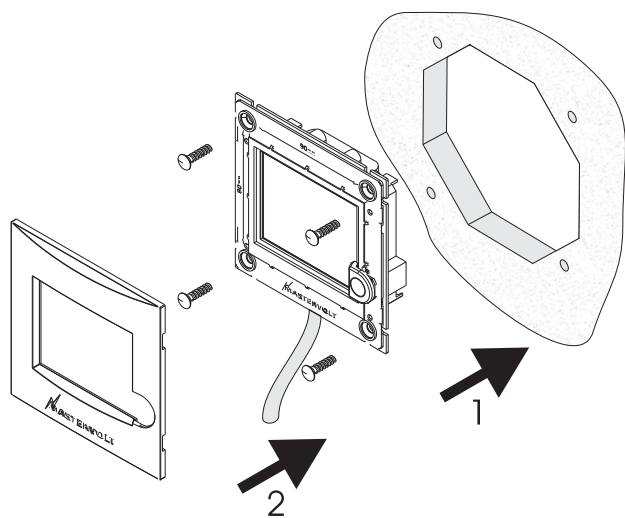

Figure 17
- Flush mounting (see figure 17):
- Mount the MasterView Easy onto the panel (1) and then reattach the front (2).